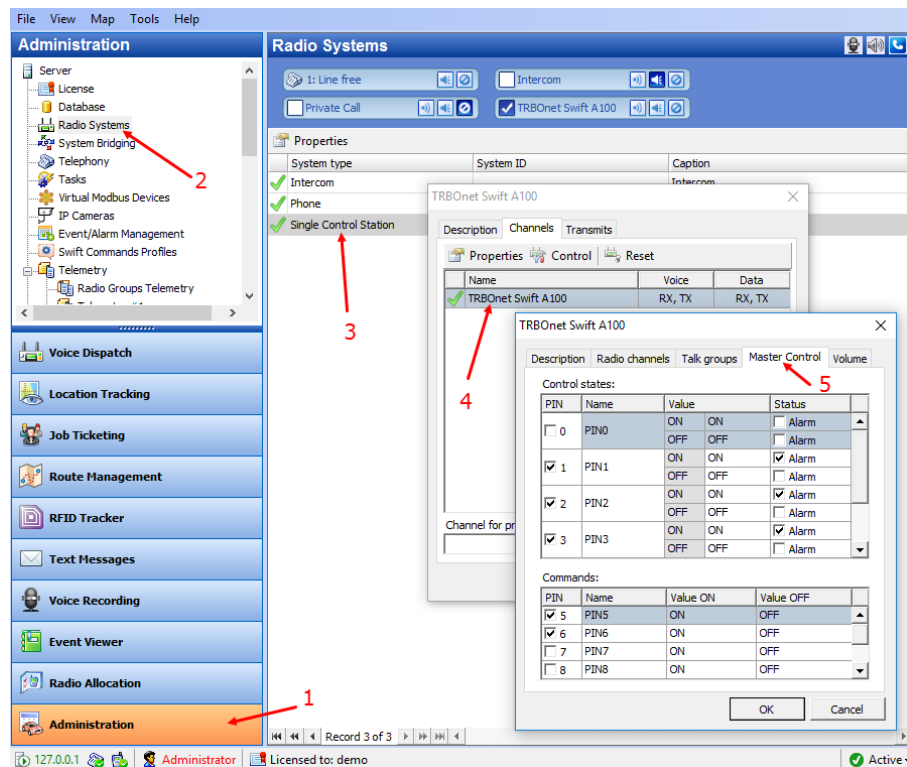

Figure 17: Configuring the A100 gateway pins in TRBOnet Dispatch Console
1. In the TRBOnet Dispatch Console, click **Administration** and **Radio Systems** in the left pane (Figure 17, step 1 and 2).
2. In the right pane, the list of the registered radio systems appears. Double-click the radio system associated with your A100 gateway (Figure 17, step 3).
3. In the popup window, click the **Channels** tab. Double-click the channel (Figure 17, step 4), or select it and click **Properties**. Another popup window appears.